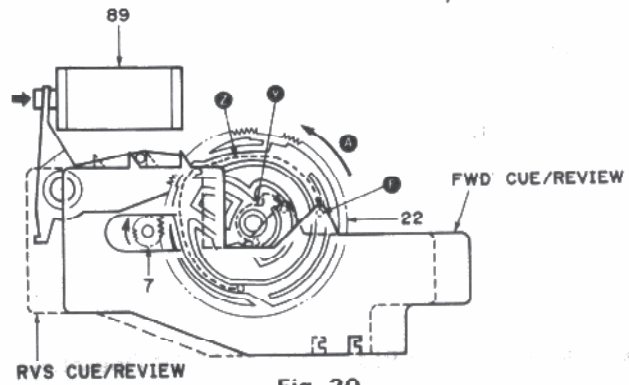
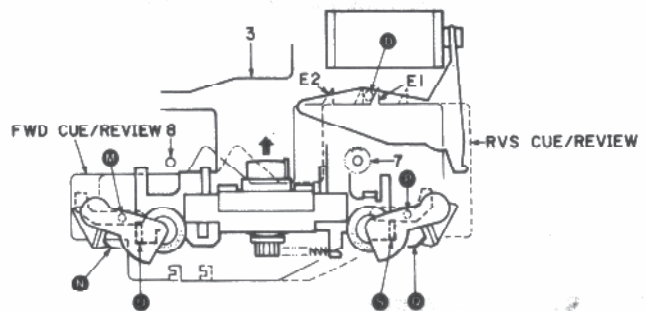

Fig. 20
Fig. 22 (Perspective view from the front)
- 6-4) In the transition from FWD PLAY to CUE/REVIEW, the pin (F) of the SLIDER passes through the FD GEAR orbit (Z) and moves to the CUE/REVIEW position of Fig. 20.
In the transition from RVS PLAY to CUE/REVIEW, the pin (F) of the SLIDER passes through the FD GEAR orbit (Y) and moves to the CUE/REVIEW position of Fig. 20.
- 6-6) The SLIDER is held by the protrusion (E1) of the SLIDER and pin (D) of the FD ARM.
- 6-7) When the SUB-CHASSIS comes to the top, the SLIDER is in one of the positions of Fig. 22 shown in the diagram. In either case, the spring (N) (Q) of the pinch roller (L, R) is not lifted by the SUB-CHASSIS edge (C) (S), so the pinch roller is not pressed against the capstan.